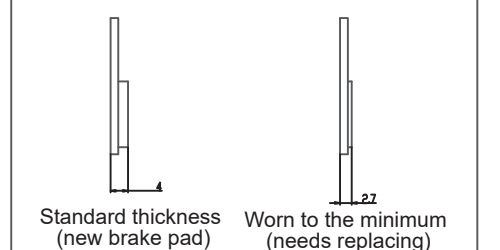

Fig. 5
- (b) Before riding the bicycle, please check the thickness of the brake pads. When the wear of the brake pads exceeds 0.8 mm, the replacement of the pad is recommended. When the total thickness of the worn brake pad is less than 2.7 mm, the pads must be replaced to ensure the safety riding (Fig. 5).